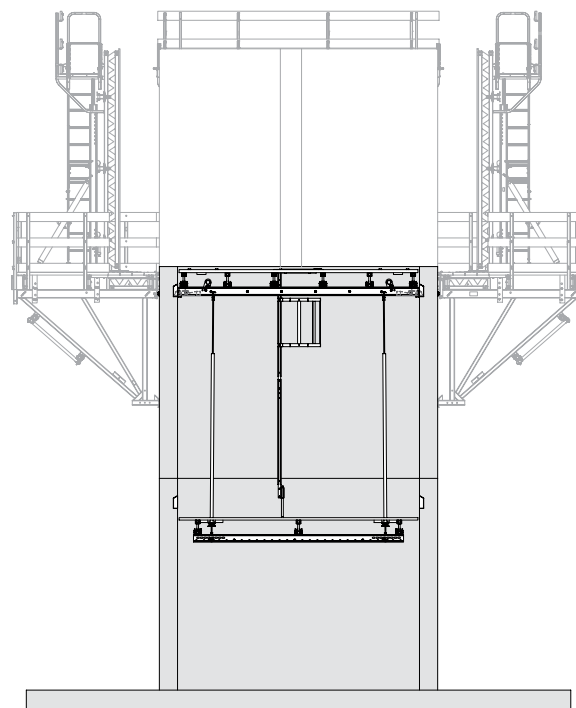

Fig. C4.06
7. Mount access ladder to the finishing platform. (Fig. C4.06)